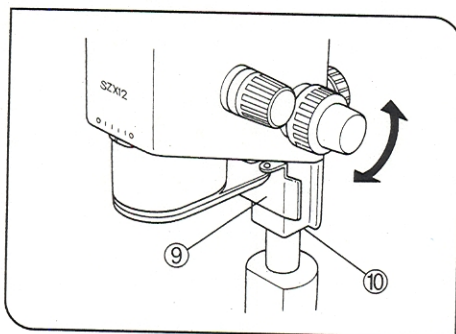

Fig. 34
★ Before installing the focusing assembly on the pillar, adjust the coarse and fine focus adjustment knobs so that the hand guard ⑨ does not protrude from the lower end of the focusing assembly ⑩. (Fig. 34)